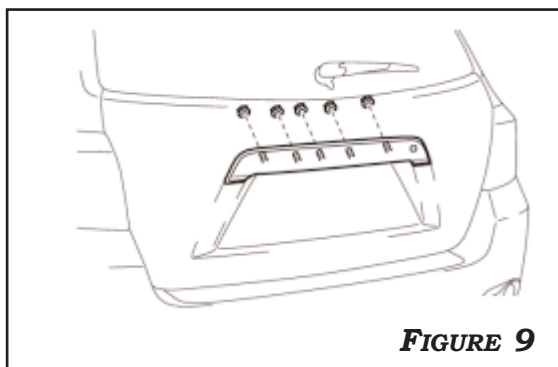

FIGURE 9
9. REMOVE (5) 10MM NUTS, DISCONNECT CONNECTORS, AND DISENGAGE THE CLIPS TO REMOVE THE BACK DOOR OUTSIDE GARNISH SUB-ASSEMBLY. **FIGURE 9**